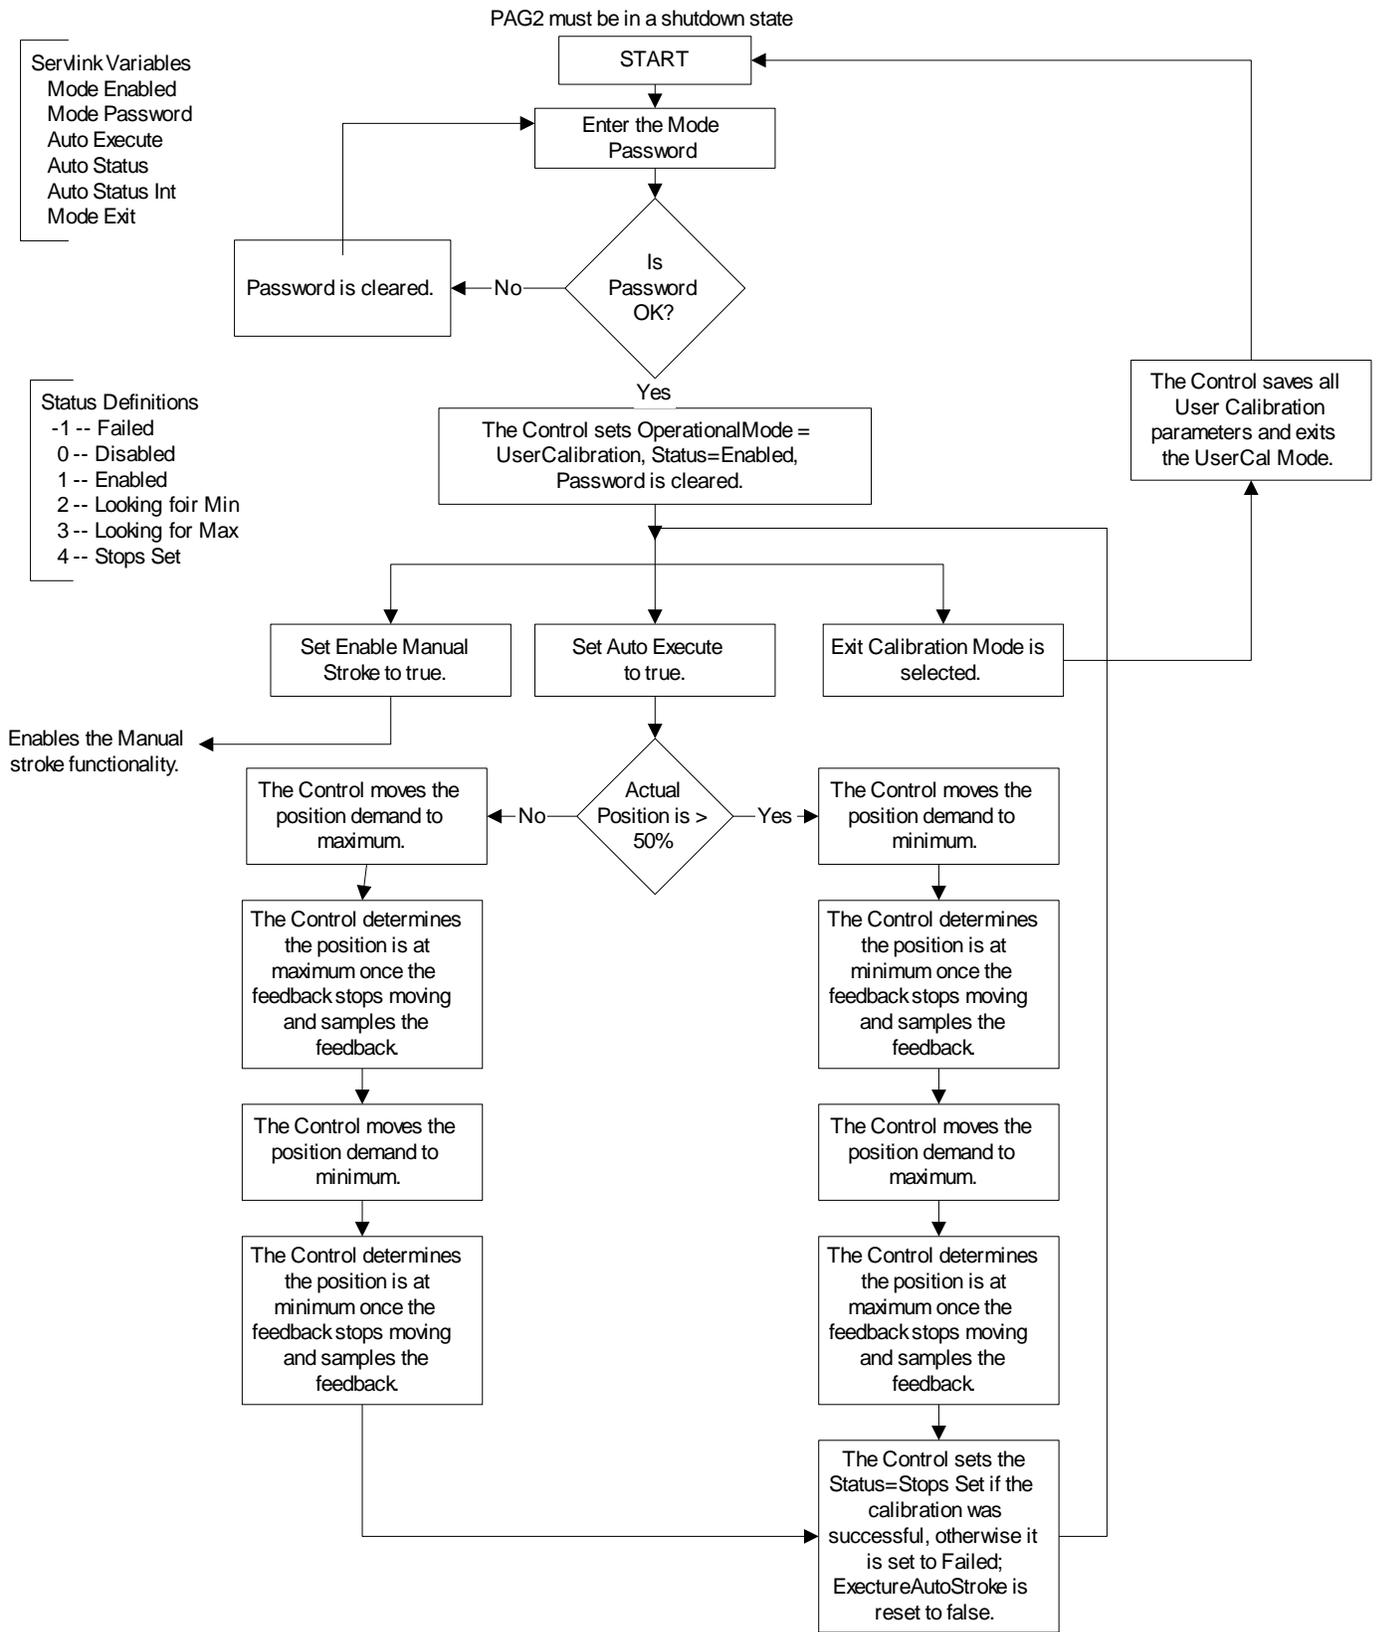

Figure 9-7. Auto Stroke Mode Flowchart
To enter the User Calibration mode, the unit must be shut down and a password must be entered. For an overview of the User Calibration, refer to the attached flowcharts (Figures 9-7 and 9-8).
6. Select the desired calibration mode. There are 2 modes, a manual stroking mode and an automatic mode. Refer to Figures 9-7 and 9-8. If the Auto mode is selected, steps 7 through 11 will occur automatically without any user input required. Auto Mode is enabled by setting "Auto Execute" to true.